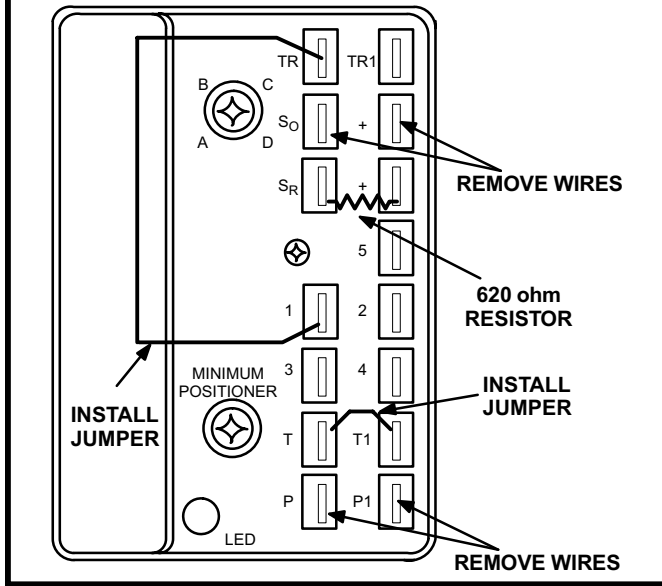

FIGURE 8
- 6- Factory installed 620 ohm resistor should be connected to terminals SR and +. If optional differential enthalpy sensor is connected to these terminals, disconnect it and install a 620 ohm resistor in its place. See figure 8.